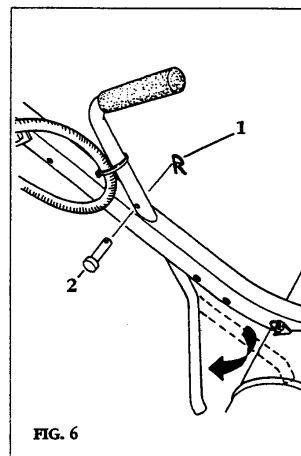

FIG. 6
- (FIG. 6) Remove snap pin (1) and clevis pin (2) from the lower part of the carrying handle. Turn the stabilizer bar 180° and reinstall the clevis pin and the snap pin. There are three (3) holes in the stabilizer bar for different cutting depths. Refer to p. 9, under "Tilling and Cultivating Hints," for more details.